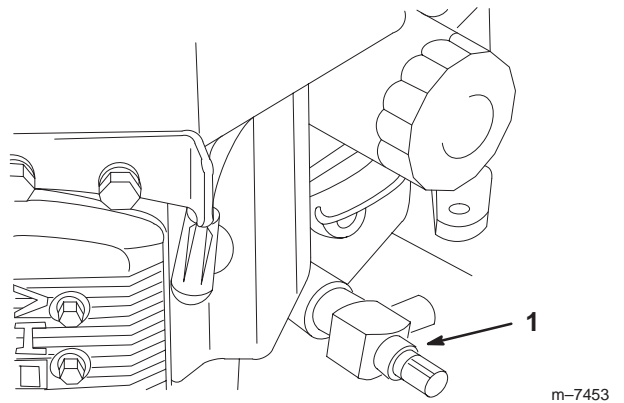

Figure 28
5. Place a pan under the oil drain hole in the engine frame (Fig. 28).
6. Open the oil drain (Fig. 28).